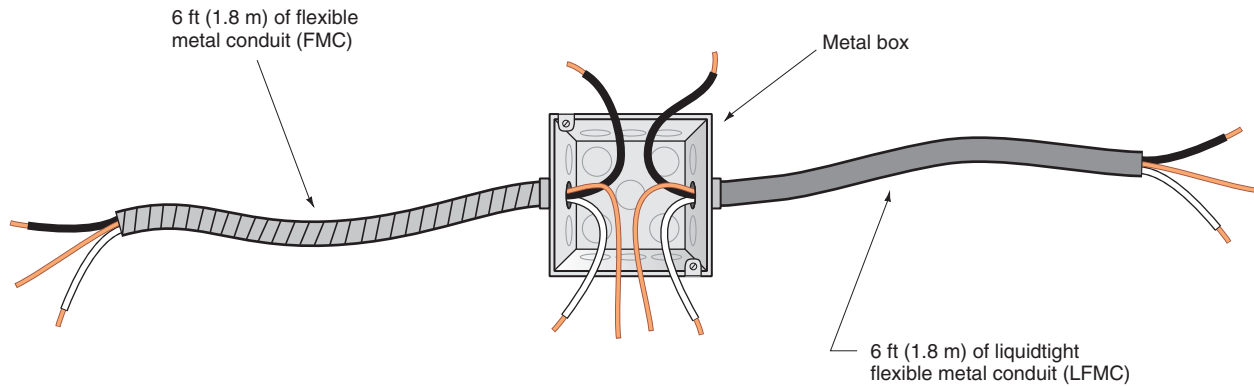

FIGURE 4-41 Use of liquidtight flexible metal conduit or flexible liquidtight nonmetallic conduit. (Delmar/Cengage Learning)
- A** Permitted as a grounding means if it is not over trade size $1\frac{1}{4}$, is not over 6 ft (1.8 m) long, and is connected by fittings listed for grounding. The 6 ft (1.8 m) length includes the total length of any and all flexible connections in the run. See Figure 4-41.